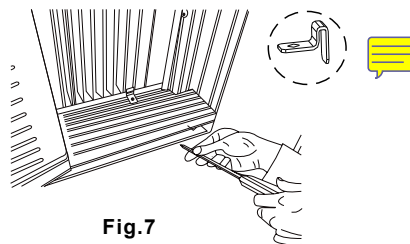

Fig. 7
- A. Place the frame lock between the frame extensions and the window sill as shown (Fig. 7). Drive 3/4" (19 mm) or 1/2" (12.7 mm) locking screws through the frame lock and into the sill.